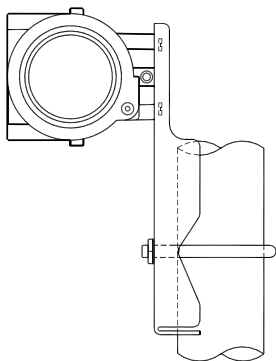

Figure 2.1 The installation of pipe mounting flat bracket
**The installation of pipe mounting flat bracket:** the typical installation as Figure 2.1 shows. Fix NCS-IF105 converter in flat bracket using four bolts provided, and then fix the flat bracket on the vertical pipe in  $\Phi 50\text{mm}$  around through the U-shape bolt provided.